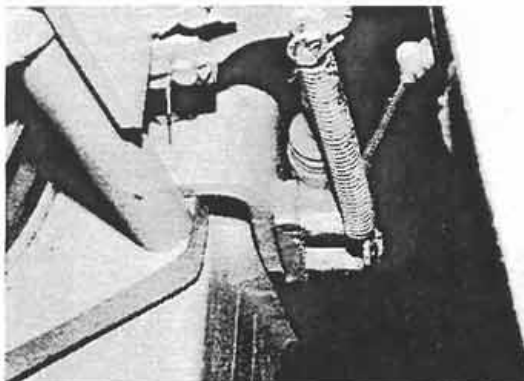

Figure 10:
5. Reconnect the brake line and return spring (Fig. 10).